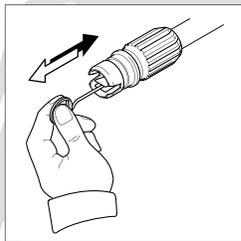

Fig. 16
- Using the nozzle tip cleaner provided (or an unfolded paper clip), insert the wire into the nozzle hole and move back and forth until debris is dislodged (Fig. 16). Back flush water through the nozzle using garden hose and highest pressure available (either standard water nozzle or use your thumb over the nozzle to create water pressure for back flush).